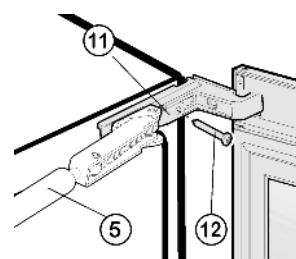

Fig. 7
- ▶ Set the soft stop mechanism Fig. 7 (5) at an angle and carefully lay it on the front face of the appliance.
- ▶ Unscrew the middle screw Fig. 7 (12) from the bearing of the soft stop mechanism Fig. 7 (11).
- ▶ Carefully lay the soft stop mechanism Fig. 7 (5) on the front face of the appliance.